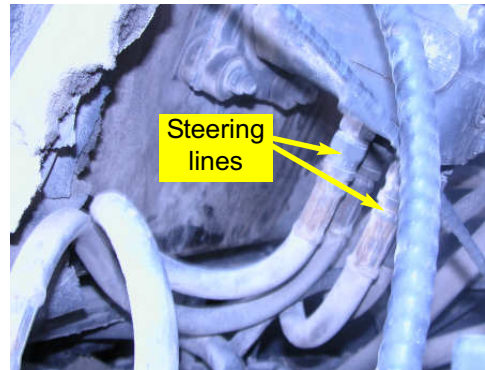

Figure 5a. Steering output lines at steering orbital.
- a. Locate the steering output lines, which are connected to the two right-side ports on the steering orbital. (Figure 5a.)